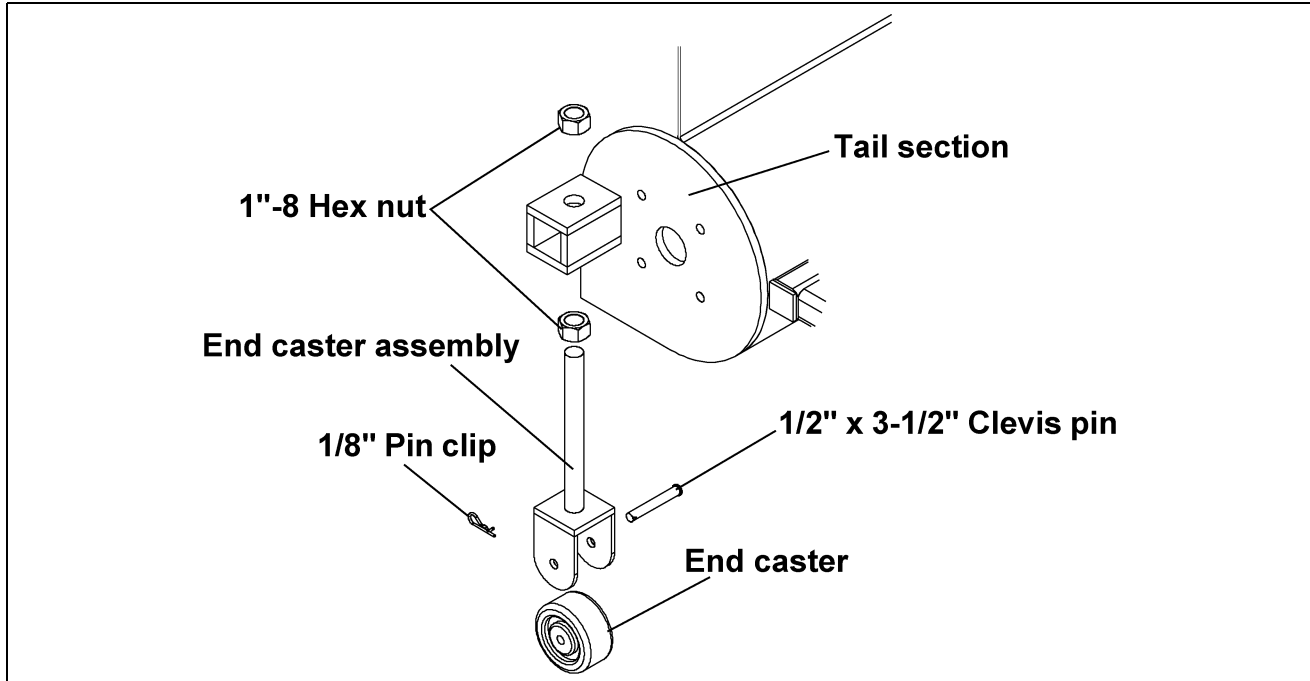

Figure 5A
- B. **(All 16" Models and 12" Models with extensions)** Assemble the end caster to the end caster assembly using the 1/2" x 3-1/2" clevis pin and 1/8" pin clip as shown in Figure 5A.
- C. Attach the end caster assembly to the end of the tail section using two (2) 1"-8 hex nuts.